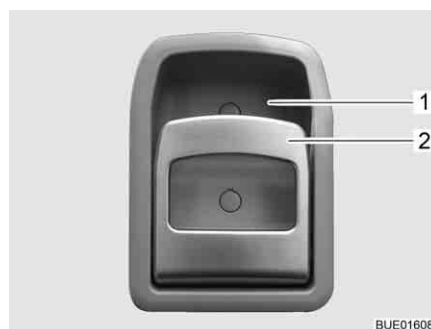

Fig. 58 Door lock of conversion door, inside
- Pull on the handle (Fig. 58,2). The door lock is unlatched or opened.
- Press the upper part of the handle (Fig. 58,2) in the direction of the recessed handle (Fig. 58,1). The door lock is locked.